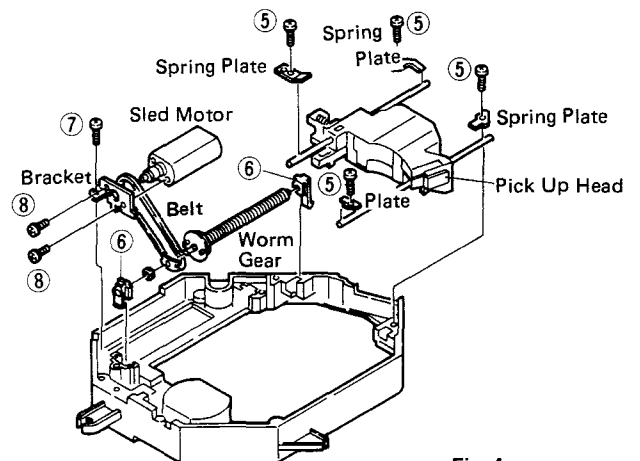

Fig. 4
Remove 4 screws (⑤) in Fig. 4.
- a. Remove 2 bearings (⑥) which hold worm gear in Fig. 4.
- b. Remove screw (⑦) which hold sled motor bracket in Fig. 4.
- c. Remove 2 screws (⑧) which hold sled motor in Fig. 4.